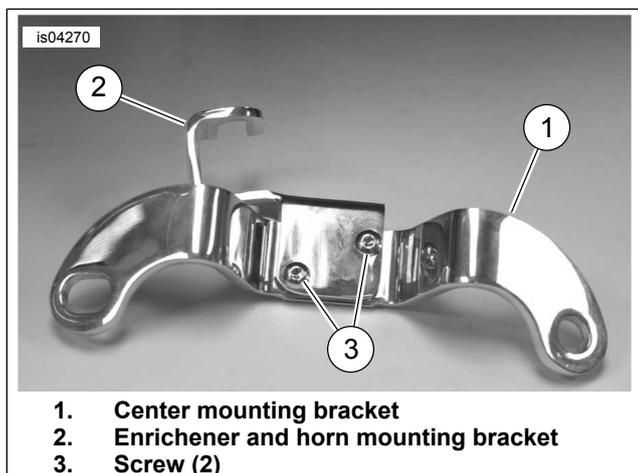

Figure 5. Assemble Enricher Mounting Brackets (Kit Number 69066-04) (1200C Shown)
6. **XL1200C Models:** See Figure 5. Obtain the center mounting bracket (1), horn and enricher mounting bracket (2) and two screws (3) from kit. Orient the mounting brackets as shown and install two screws. Tighten screws securely.